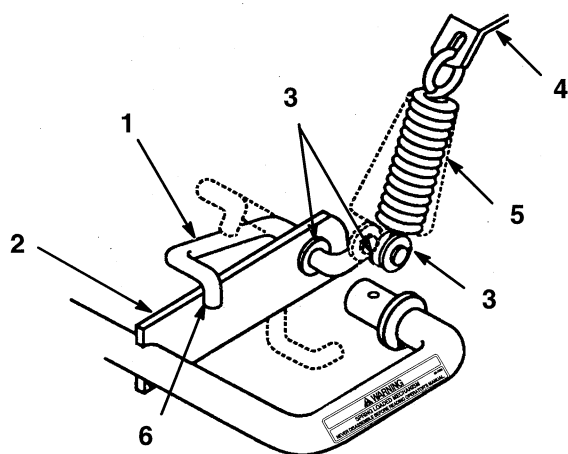

Figure 13
9. Slide rod handle through hole in tractor lift arm and rotate so welded washers are up (Fig. 13).
10. Hook one end of lift assist spring into slot in forward angle of mounting bracket under left fender (Fig. 13).
11. Hook lift assist spring between welded washers on rod. Rotate rod handle up and hook over tractor lift arm (Fig. 13).